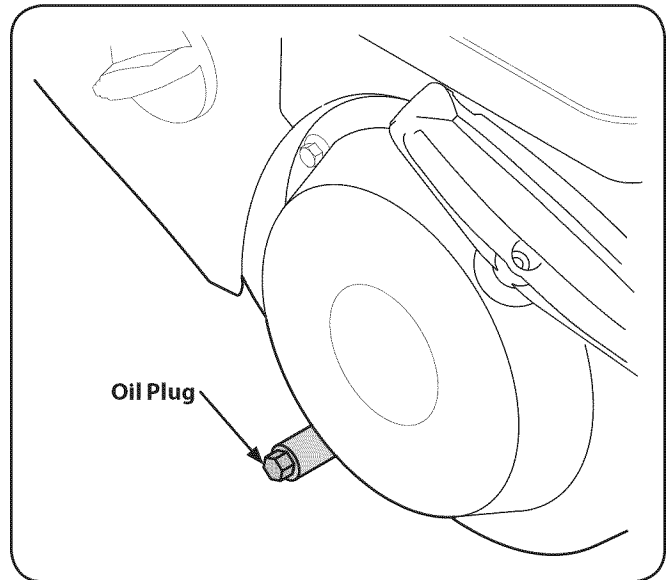

Figure 7-2
3. Remove oil drain plug, Figure 7-2.